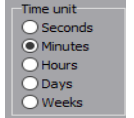
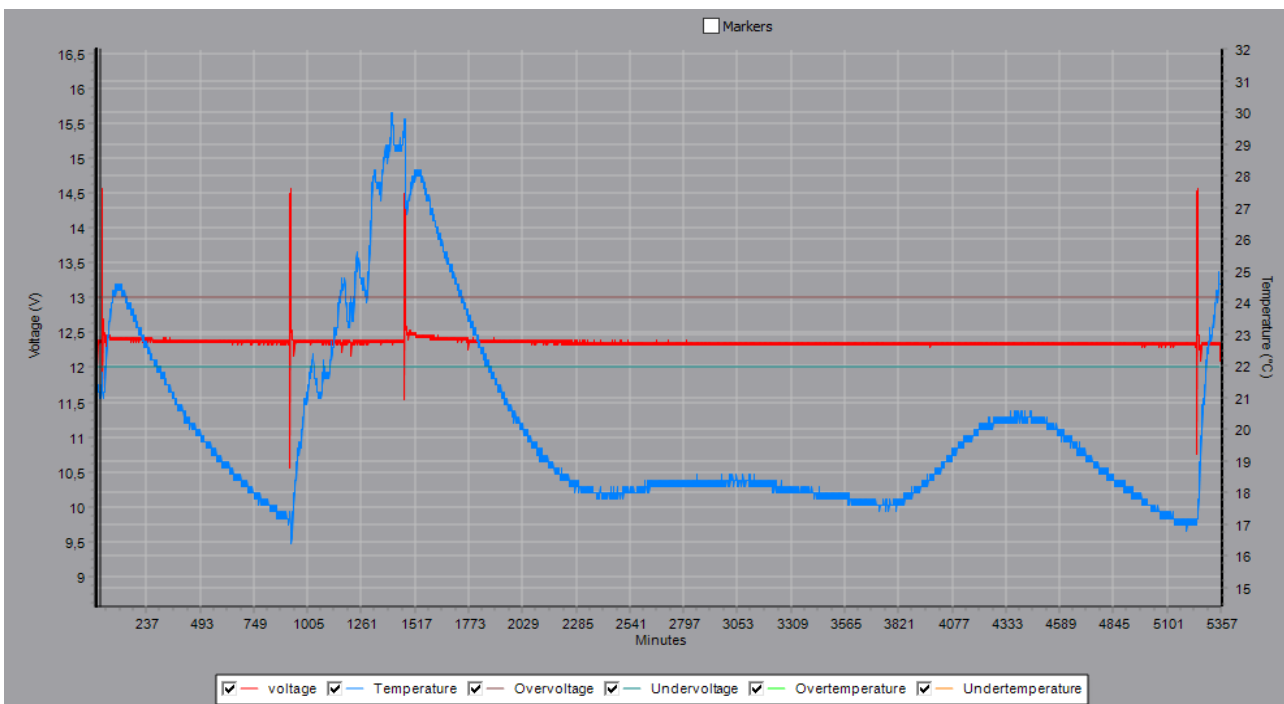
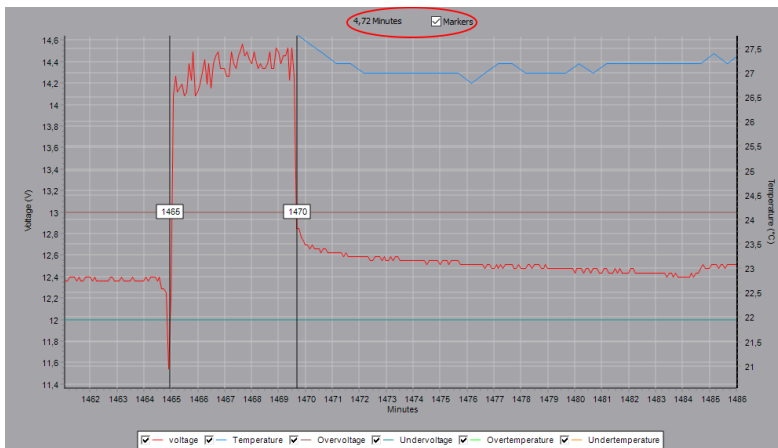

Figure 6: time unit
Figure 10: Graph
Figure 17: Markers
The *Time unit panel* ensures that the user can change units around the time axis of the graph. The moments of the calamities will also be reported in the overview of calamities using this time unit. This setting is also used in the overview of calamities (Figure 6.).
Figure 10 shows a graph example. The red line with the related left axis shows the voltage within this context. The blue line with the related right axis shows the temperature. The other lines show the set limit values. The time is indicated through the horizontal axis. The unit that is displayed here can be adjusted by using the 'Time unit panel' (Figure 6). The user can select which lines must be displayed in the graph below the graph.
Step 8. The user can determine how long a specific period has lasted in the graph by using the markers that can be found to the left and right of the graph. The markers will be activated if the user selects the markers at the top in the graph. When the markers are no longer required, the user can deactivate them by removing the check mark (by deselecting). The system will indicate how long the period is between two markers at the top of the graph (Figure 17) by dragging the markers. The time unit is determined through the time unit panel (Figure 6).